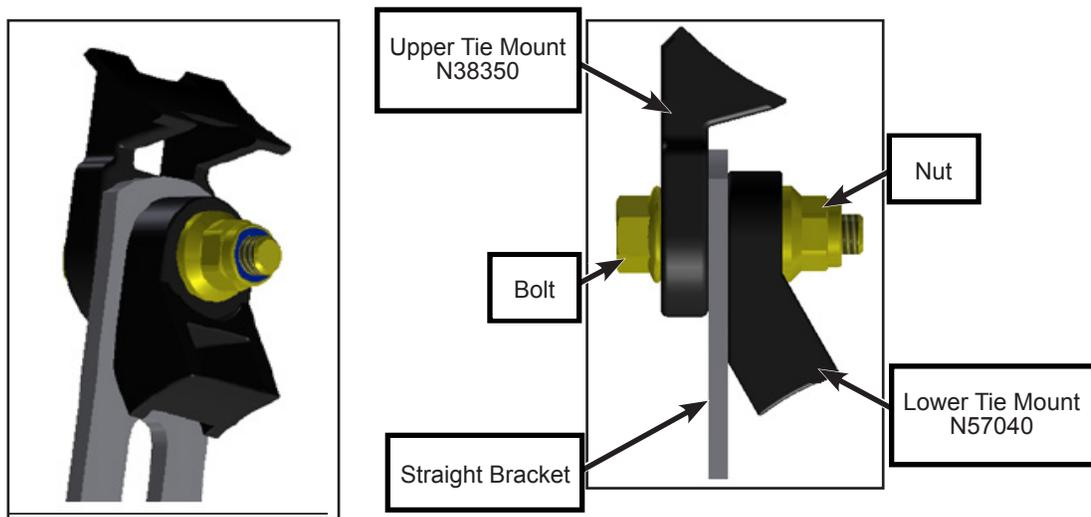

Figure 10 - Tie Mounts Installation
- 1.24. Install the two tie-mounts PN N57040 (1x) and PN N38350 (1x) on the straight bracket using the same mounting hardware (see figure 10).